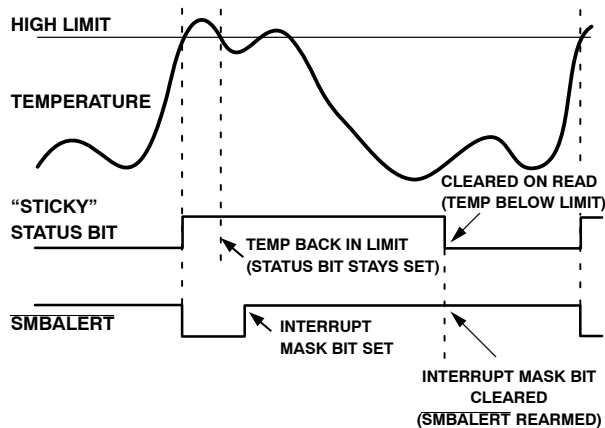

Figure 35. How Masking the Interrupt Source Affects SMBALERT Output
7. Periodically poll the status registers. If the interrupt status bit has cleared, reset the corresponding interrupt mask bit to 0. This causes the **SMBALERT** output and status bits to behave as shown in Figure 35.